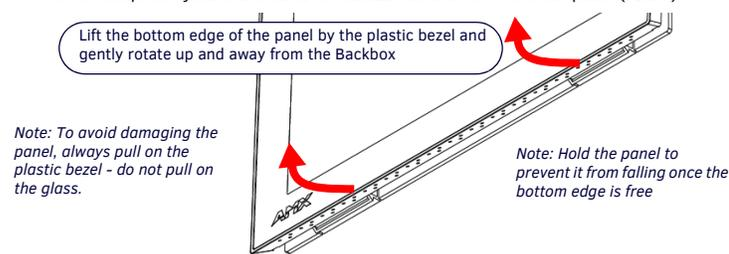

FIG. 7 MSD-701-L2 BACKBOX ASSEMBLY (RELEASING THE BOTTOM EDGE OF THE PANEL)
- Grasp the bottom of the panel and pull gently outward until the side of the panel is free of the snap. Use your other hand to stabilize the front of the touch panel (FIG. 7):